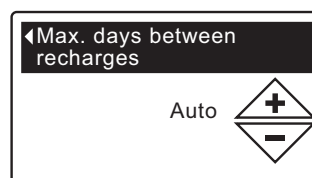

FIG. 75
- 8b. **Maximum days between recharges:** Press the UP ▲ or DOWN ▼ buttons to change the number of days (See Figure 75). The feature can be set from 1 to 15 days. Setting the number of days below 1 turns the feature off and defaults to automatic control of recharging. Default is Auto.